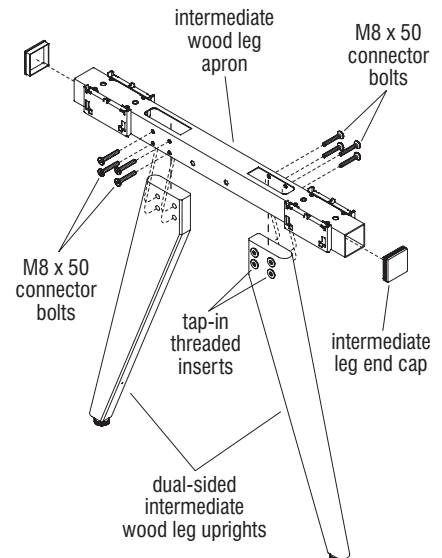

Figure 7 - Intermediate Wood Leg
Note: When inserting the intermediate wood leg uprights into the intermediate wood leg apron, it is important to note which sides the M8 x 50 connector bolts secure the upright to the apron. Make sure each leg upright face with the tap-in inserts is facing away from the apron side with the M8 x 50 connector bolt holes. Insert leg uprights into the apron slots (Figure 7).
3. Position the intermediate wood leg uprights as illustrated in Figure 7, having each upright side with the inserts facing away from apron side with the M8 x 50 connector bolt holes. Insert leg uprights into the apron slots (Figure 7).
4. Align the mounting holes of the wood leg with the holes in the wood leg apron. Using four M8 x 50 connector bolts, secure the apron to each wood leg upright (Figure 7).
5. From the hardware parts bag from step 2, locate two intermediate leg end caps. Using a 1 1/2" diameter, weighted hard-rubber mallet, tap an end cap into each open end of the apron (Figure 7).